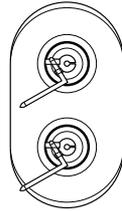

Figure 9 - Dry Heating Element Assembly
6. Disconnect the wire connectors from the heating element. See Figure 9.